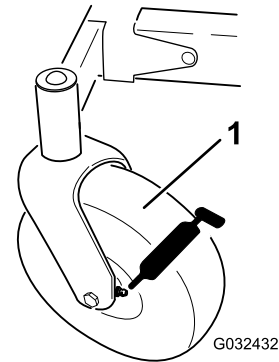

Figure 32
3. Clean the grease fittings (Figure 32) with a rag.
4. Connect a grease gun to each fitting (Figure 32).